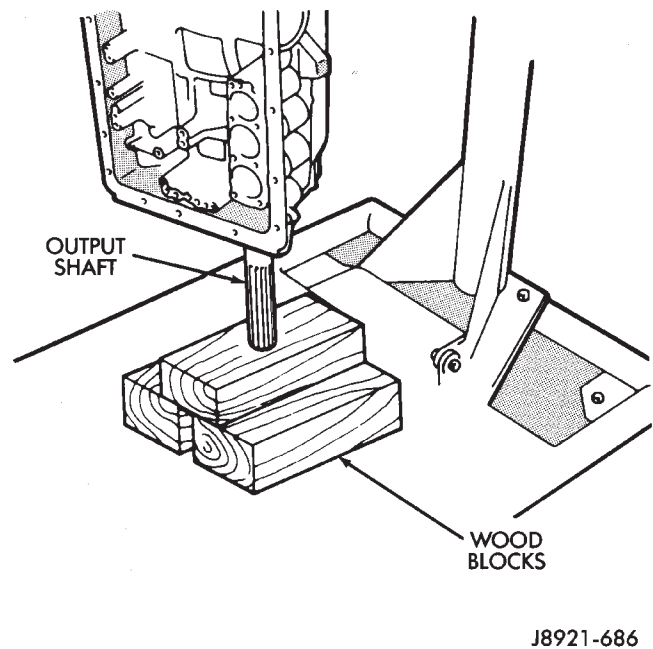

Fig. 19 Supporting Output Shaft
- (24) Support output shaft with wood blocks (Fig. 19).